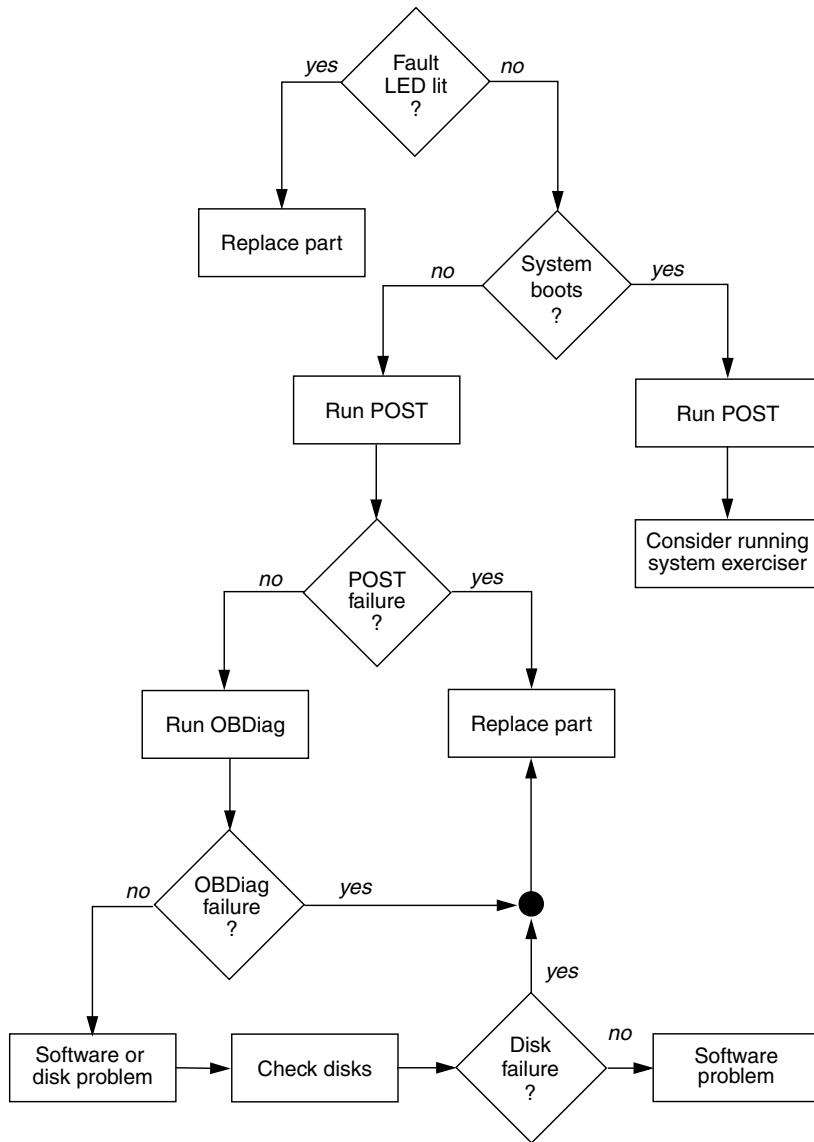

FIGURE 3-1 Choosing a Tool to Isolate Hardware Faults
- If the system *can* boot, you should use a more comprehensive tool. The typical fault isolation process is illustrated in FIGURE 3-1.